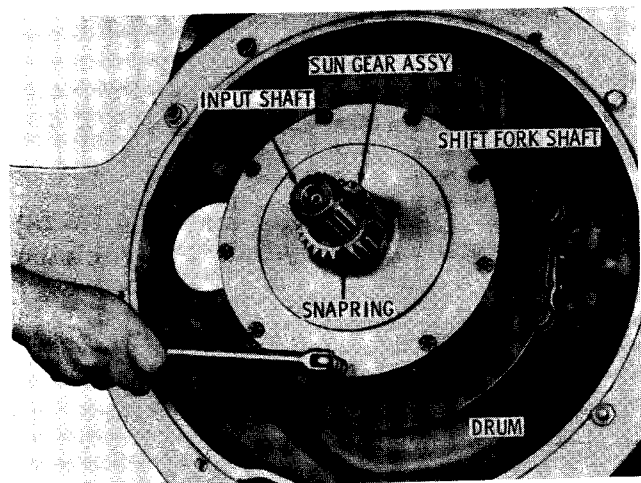
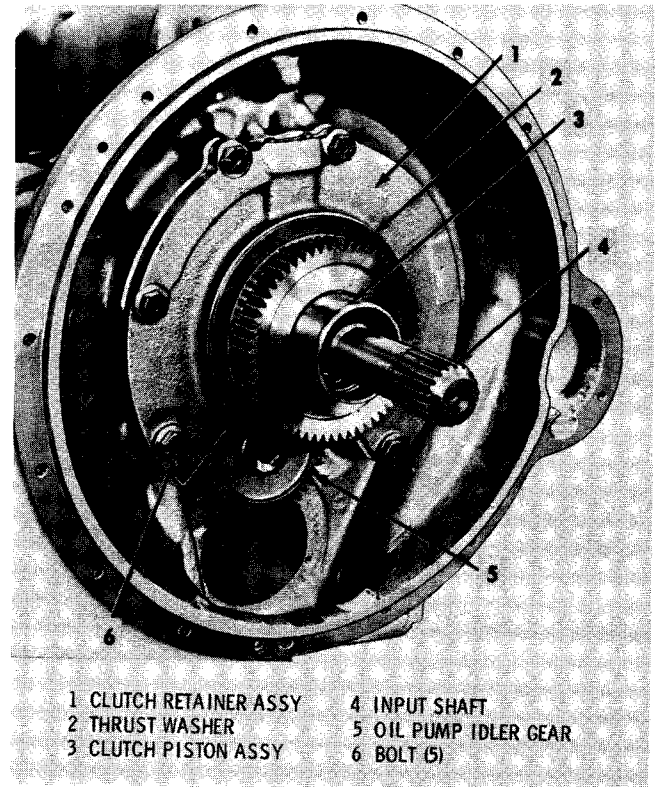

Fig. 5-30. Removing bolts from input splitter carrier sun gear assembly (VS2 series)
Fig. 5-31. Clutch retainer and input shaft (VS2 series)
(1) Remove the snapping (fig. 5-30) from the input shaft. Remove nine bolts from the sun gear assembly. Remove the sun gear assembly. Do not remove the bushing from the sun gear assembly, unless it is worn or damaged.
(2) Remove thrust washer 17 (A, fold-out 9) from the hub. Remove hub assembly 18, four internal-splined plates 21 and three external-splined plates 22 and pressure plate 23.
(3) Remove wrap-around snapping 24 from splitter clutch piston assembly 43. Remove thrust washer 25, thrust bearing 26 and spring thrust ring 27 from clutch piston assembly 43.
(4) Splitter clutch drum 30 with Belleville spring 29 and splitter overdrive clutch assembly can now be removed from clutch retainer assembly 37.
(5) Place the clutch drum assembly on a table and remove nine bolts 35 (A, foldout 9) from back plate 34. Remove the back plate, four internal-splined clutch plates 32, three external-splined clutch plates 33 and pressure plate 31. Remove two snaprings 28 and Belleville spring 29 from the drum.
(6) Remove thrust washer 2 (fig. 5-31) from clutch retainer 1. Remove five bolts 6 attaching retainer 1 to the transmission housing. Remove the retainer assembly with the piston assembly.